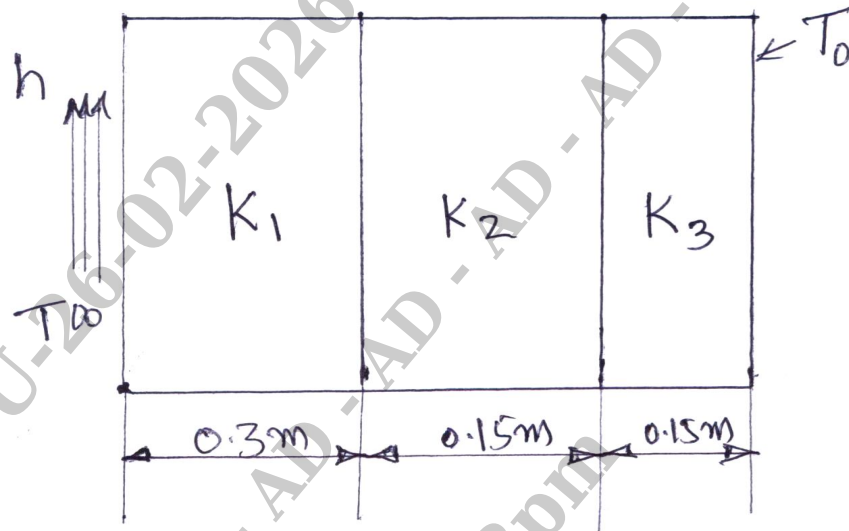

Fig. Q. 7 (b)
- b. A composite slab consists of three materials with thermal conductivities of $20 \text{ W/m}^\circ\text{C}$, $30 \text{ W/m}^\circ\text{C}$ and $50 \text{ W/m}^\circ\text{C}$ and thickness 0.3 m , 0.15 m and 0.15 m respectively as shown in fig. Q. 7 (b). The outer surface is at 20°C and the inner surface is exposed to the convective heat transfer co-efficient of $25 \text{ W/m}^2 \text{ }^\circ\text{C}$ and medium at 800°C . Determine the temperature distribution within the wall.